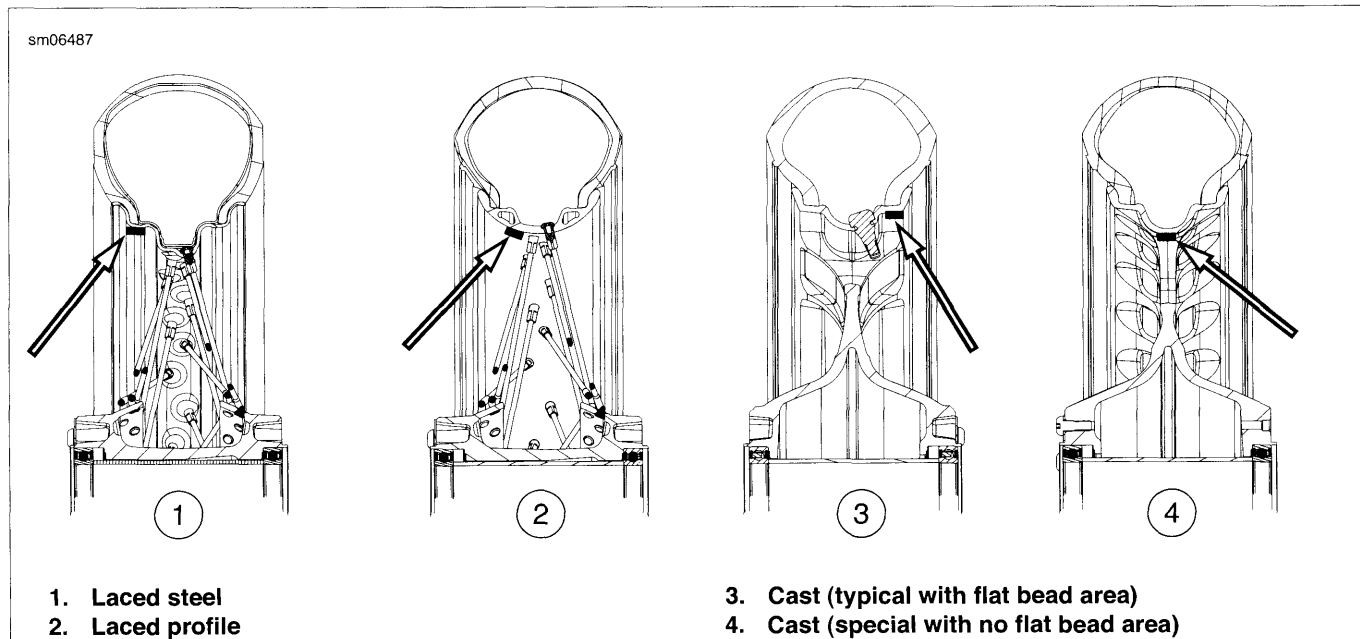

Figure 2-133. Wheel Weight Placement
Use self-adhesive wheel balance weights for all Harley-Davidson wheels, placed as indicated in Figure 2-133 depending on wheel style.
- On cast wheels without a flat area near the bead, such as the cast special wheel (4) shown in Figure 2-133, it is acceptable to place them crosswise through the opening.
1. See Figure 2-133. Place weights on a smooth surface of the wheel rim such that centrifugal force will help keep them in place. Make sure the area of application is completely clean, dry, and free of oil and grease.